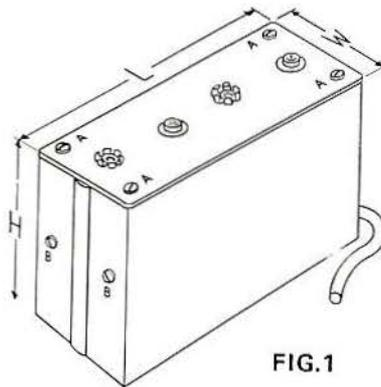

FIG. 1
- (i) Before connecting supply, remove the four screws referenced 'A' in Fig. 1 and raise top plate which is joined by two wires to the internal circuit.
Removal of Wrap: Should it be necessary to gain access to the interior of the unit, withdraw the six screws referenced A and B in Fig. 1, raise and tilt top plate and lift off wrap via top of unit.